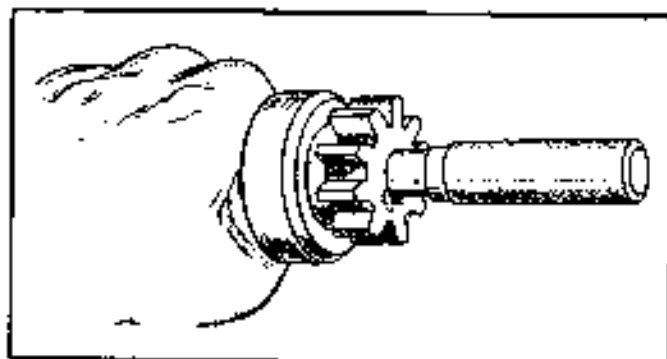

FIGURE 18-12. REMOVAL OF RING
- 6 On solenoid shift models, remove the ring after driving the pinion stopper toward the pinion gear using a cylindrical tool (Figure 18-12). Remove the overrunning clutch and the pinion stopper at the same time.